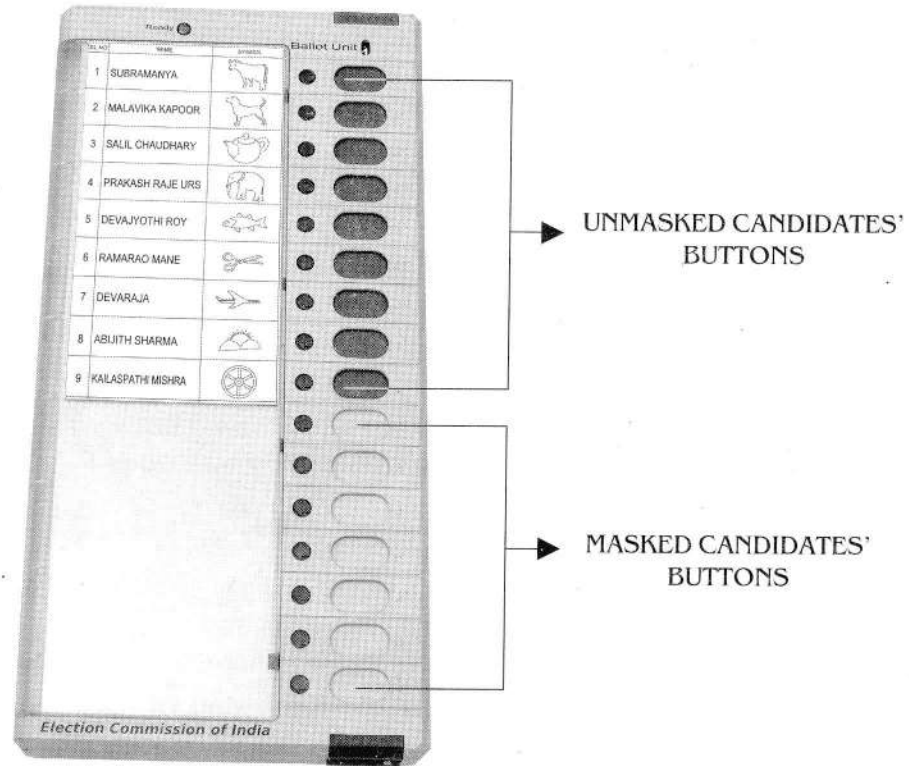

FIG. 18 Ballot Unit set for nine candidates
**NOTE :** For example, if the number of candidates is nine, the first nine (i.e., 1 to 9) Candidates' buttons are left unmasked and the remaining seven (i.e., 10 to 16) shall be masked as shown in Fig. 18.